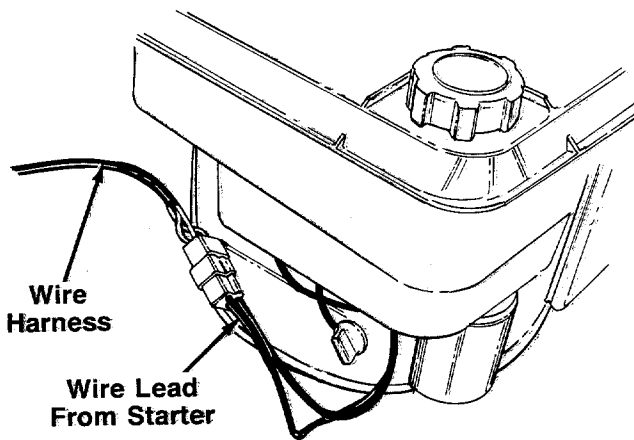

FIGURE 10.
16. Plug the end of the wire lead coming from the starter on the engine into the plug on the end of the wire harness. See figure 10.
To charge the battery, first remove the protective cap from the end of the battery pack lead. See figure 10. Always plug charger lead into battery pack lead before inserting battery charger plug into 120 volt standard household outlet.